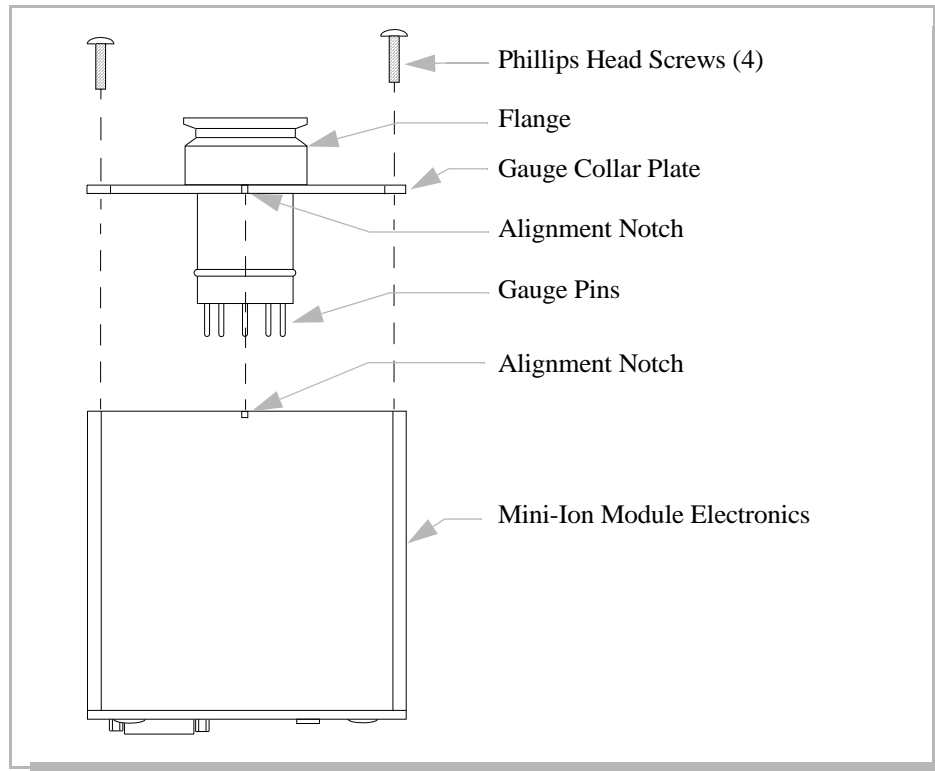

Figure 4-5
4. Remove the four Phillips-head screws from the gauge collar plate as shown in Figure 4-5.
5. While holding the flange, gently pull the Mini-Ion Vacuum Gauge Module away from the gauge collar plate as shown in Figure 4-5. The gauge tube and plate will disconnect from the module.
6. Align the notches on the replacement gauge collar plate and the Mini-Ion Vacuum Gauge Module as shown in Figure 4-5.